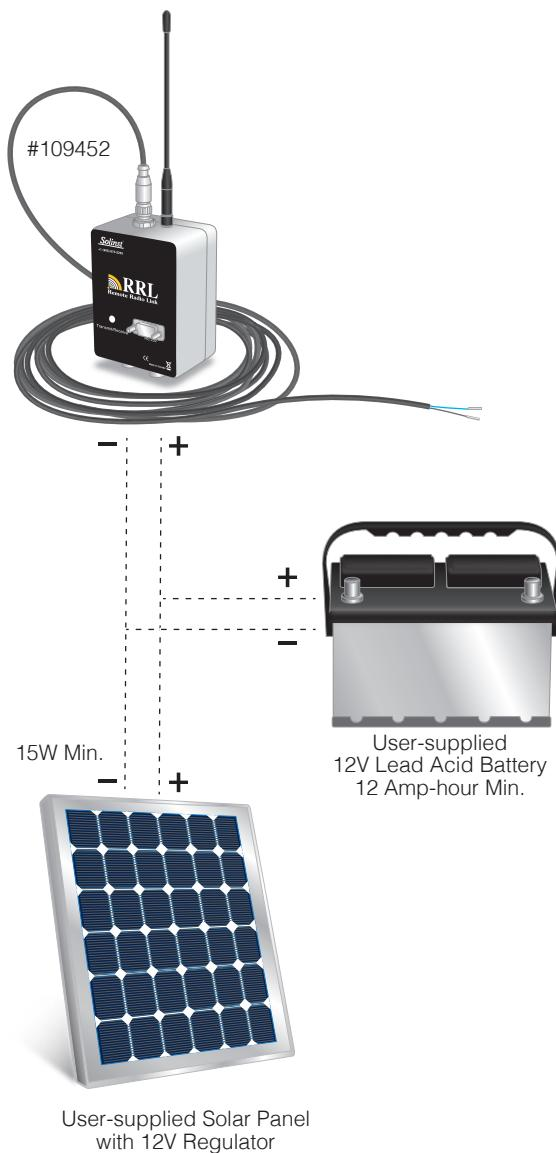

Figure 6-8 External 12V Lead-Acid Battery with Solar Panel Connection
4. Using the Solar/12 Volt Cable Assembly (pt# 109452) to connect to an external user-supplied 12V lead-acid battery (minimum 12 Amp-hour rating), trickle charged with a Solar Panel (minimum 15 W with a regulator for 12V). See connection diagram in Figure 6-8.